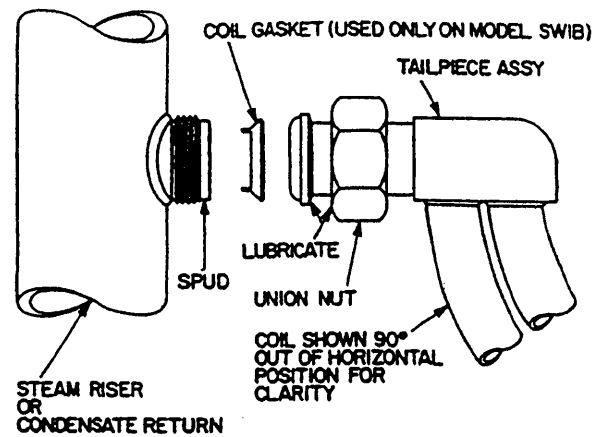

Figure HE-104-13 -- Assembly of Coil to Steam Riser or Condensate Return
- D8. Disconnect ALL external piping from the Heater top head, including that to that to the Relief Valve(s) (73) and the Water Solenoid Valve (79). Disconnect the Hot Water outlet piping at the union located beyond the outside diameter of the Heater top head.
- D11. Close the Shutoff Cock (90) in the Pressure Gage line and disconnect the Compression Fitting (86).
- D12. Disconnect the Compression Fitting (77), located at the bottom of the Shunt Tubing (87), from the Heater bottom head.
- D14. Remove the Nuts (51), Studs (53) & (62), and Lockwashers (65) from the Heater bottom head flanges.
- D15. Using a hoist or block and tackle attached to the Lifting Lugs (52) on the Heater top head, CAREFULLY lift the top head and shell STRAIGHT UP off the Heater riser and coil assembly. DO NOT SCRAPE the shell lining against the coil tubing.
- D18. If a coil must be replaced, use a 1-5/16" open end wrench to disconnect the unions holding the coils to the Steam riser and Condensate return. Be careful not to damage the spud threads (see Figure HE-104-13).
- D21. If it is necessary for any reason to remove the Heater top Head (37) from the Shell (58):
- Remove the Nuts (51), Studs (53) and (62), and Lifting Lugs (Eye Bolts) (52), and lift the Head off the Shell.
- a. See Figure HE-104-13. A conical Coil Gasket (57) is required for each coil union in the Heater. It is recommended that Coil Gaskets (57) be replaced whenever a coil is reassembled to a riser or return even though the coil itself is not being replaced. Snug the gasket into the riser or return spud.
- b. Before assembling the coils to the riser or return spuds, wrap each spud with Teflon tape and apply a lubricant (grease) to the back of the union nuts and shoulders on the coil tail pieces (see Figure HE-104-13). Rotate the nuts to spread the grease.